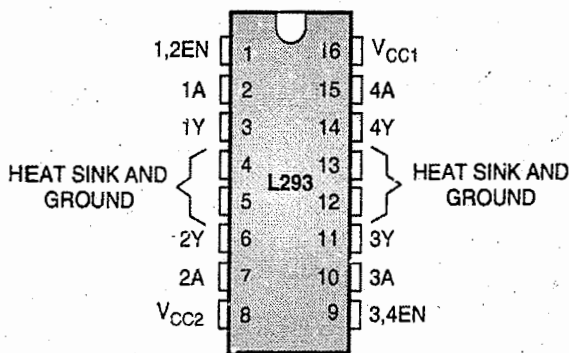

Fig. 11.7.3(a) : Pin Diagram of L293
- Fig. 11.7.3(a) shows the pin diagram while Fig. 11.7.3(b) shows the block diagram of L293.